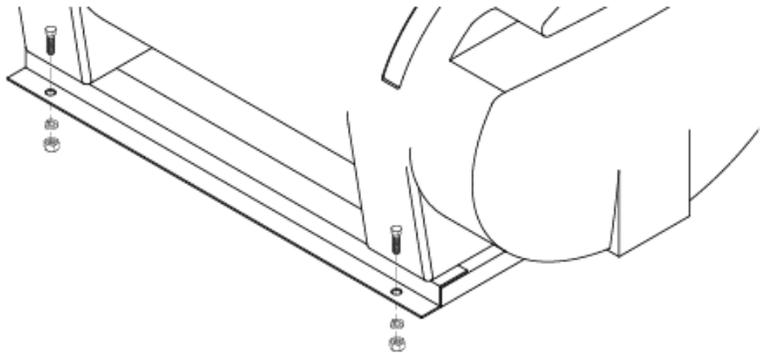

Figure 3: Applicator unit mounting
4. The applicator's tank is mounted on a steel powder-coated frame, which contains four pre-drilled holes. **For optimal stability, mount the liquid applicator with bolts using the pre-drilled holes in the sprayer frame. See Figure 3 on page 4.**